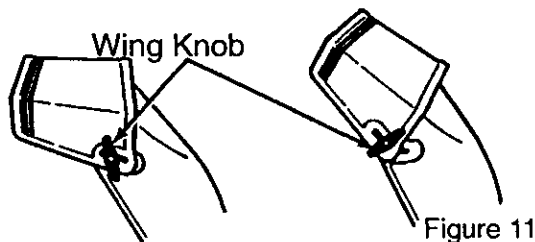

Figure 11
2. Loosen the **wing knob** on the chute deflector and move the deflector to set the distance. Move the deflector (**Up**) for more distance, (**Down**) for less distance. Then tighten the **wing knob** (See Figure 11).